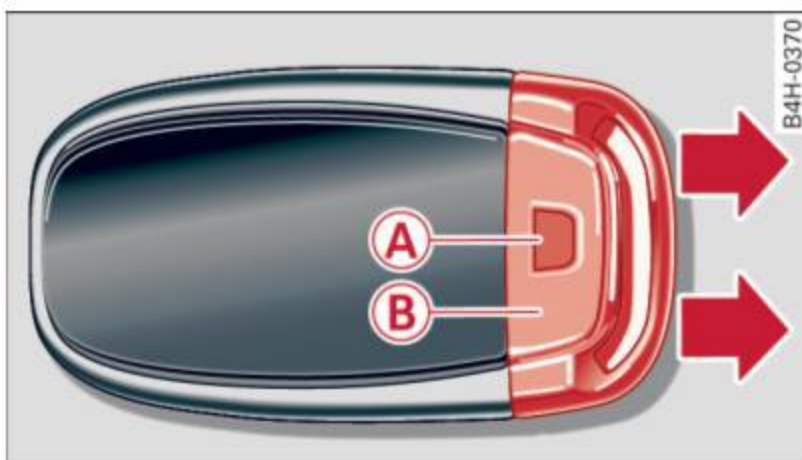

Fig. 20 Remote master key: removing the mechanical key
- ▶ Press the release button **A** ⇒ *fig. 20*.